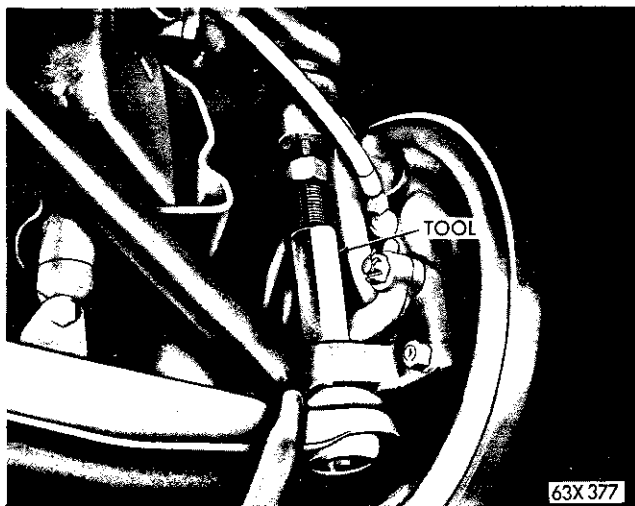
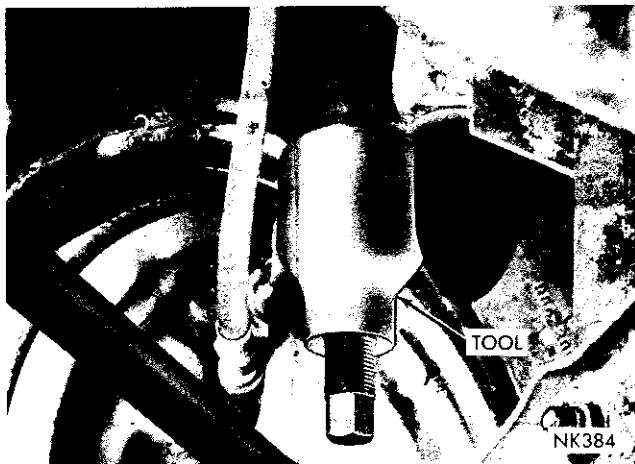

Fig. 11—Removing Upper Ball Joint Stud (Imperial)
Fig. 12—Removing Upper Ball Joint Stud (Chrysler)
(3) **On Imperial Models**, remove the upper and lower ball joint stud nuts. Slide Tool C-3564 down over the lower stud until the tool rests on the steering knuckle. Turn the threaded portion of the tool locking it securely against the upper stud (Fig. 11). Spread the tool enough to place the upper stud under pressure, then strike the steering knuckle sharply with a hammer to loosen the stud. **Do not attempt to force the stud out of the knuckle with the tool alone.**
(4) Remove the tool, then disengage the ball joint from the knuckle.
(5) **On Chrysler Models**, when removing the upper ball joint stud from the steering knuckle using Tool C-3964 (Fig. 12) make sure the bottom portion of the tool is positioned between the steering knuckle and the seal, otherwise damage to the seal will result.